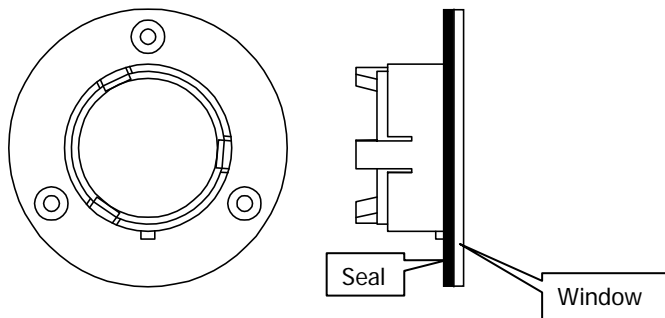

Figure 2 Seal fitted to window
5. Ensure the seal is fitted to the window and is correctly seated (Figure 2).